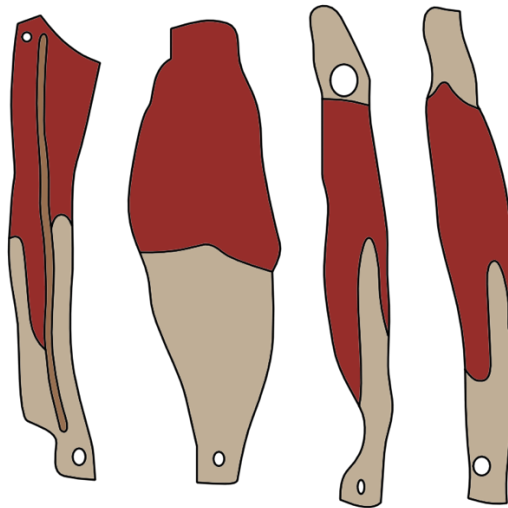

Figure 4. Muscle Compartment
There are four muscle compartments in the lower extremity. **Figure 4** displays (from left to right) (1) the deep posterior compartment, (2) the superficial posterior compartment, (3) the lateral compartment, and (4) the anterior compartment. The end labeled with a number indicates the top, or superior, part of the muscle assembly. The deep posterior compartment includes the neurovascular bundle and the lateral compartment includes the superficial peroneal nerve.